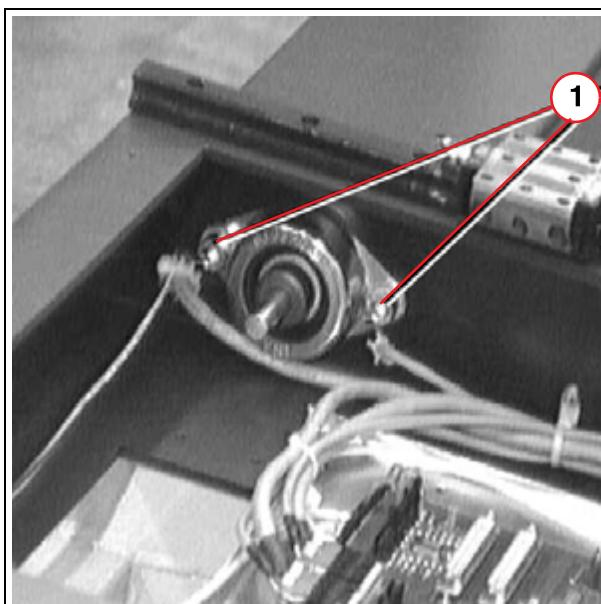

Fig. 26: Drive axle_A bearing
- Remove the drive shaft bearing to replace the cables (\(Fig. 26 / p. 60\)).